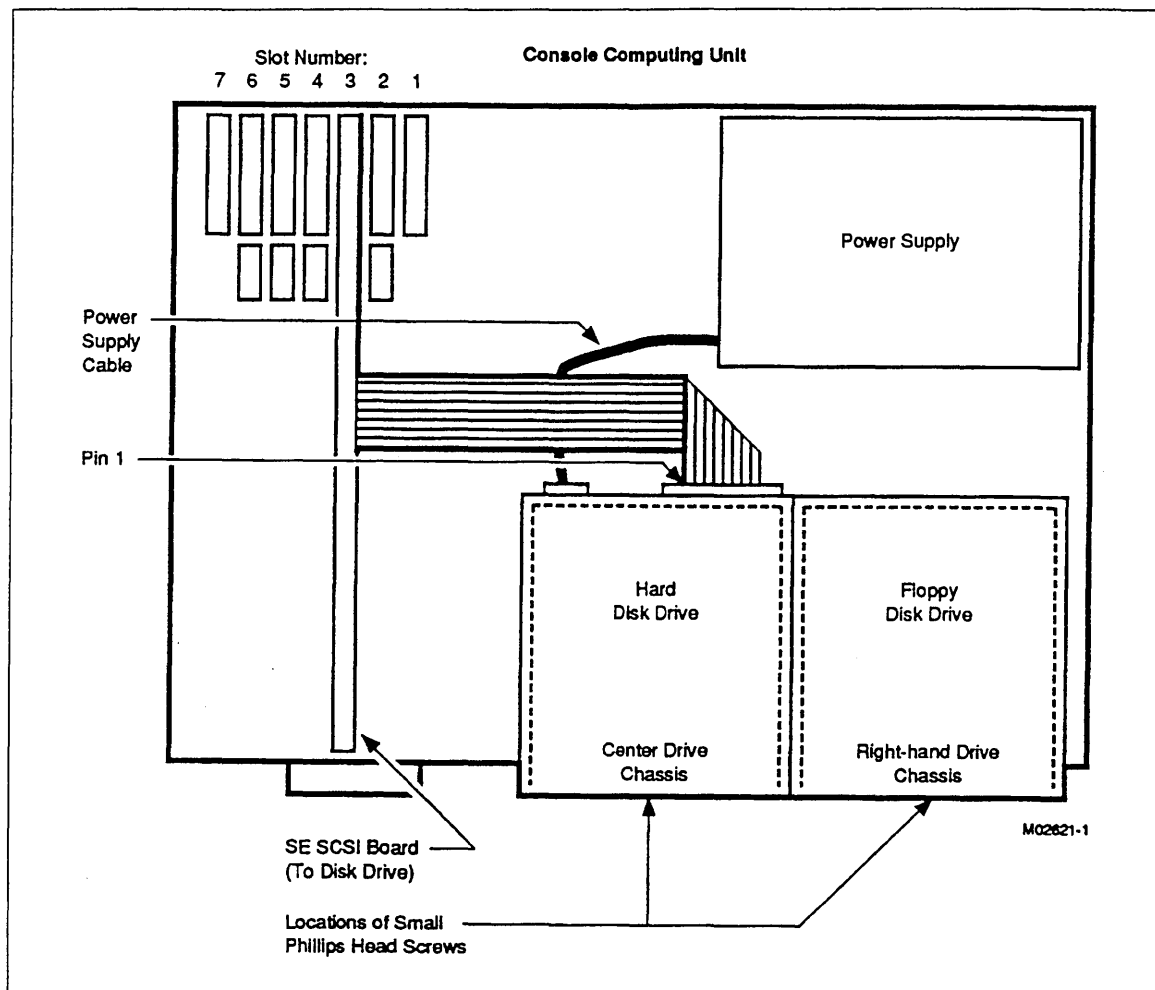

Figure 7-4. Connections for Hard Disk Drive (CC598-A)
The hard disk drive within the CCU of a CC598-A console is located adjacent to the floppy disk drive (see figure 7-4). Use the following procedure to remove and replace the disk drive within the CCU of a CC598-A console.
- ___ b. To remove the SE SCSI Board from card slot 4, remove the Phillips screw securing the SE SCSI board to card slot 4, then lift the board out of the CCU. Disconnect the ribbon cable connected to the hard disk drive (see figure 7-4). Note that the colored stripe on the ribbon cable aligns with pin 1 of the connector.